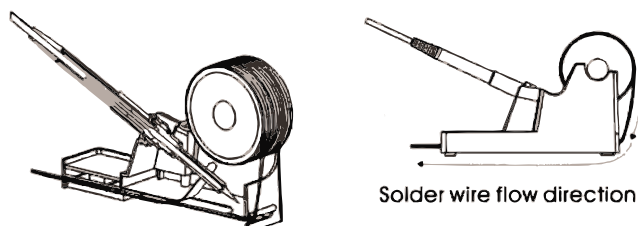

Figure 1. Soldering Iron stand with solder wire holder
1. Install solder wire to the solder iron holder (see Figure 1).
3. Place the soldering iron to the soldering iron stand as shown in Figure 1.